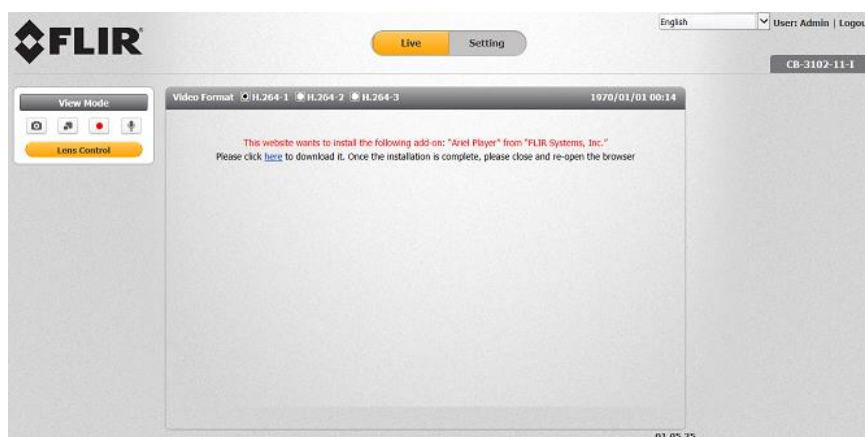

Figure 12: Web Interface
9. Click **Login**. The camera's web interface opens. See Figure 12: Web Interface (page 17).
4. Enter the user name (default: *Admin*) and password (default: *1234*) to log into the system. The unit's web interface opens. See Figure 12: Web Interface (page 17).